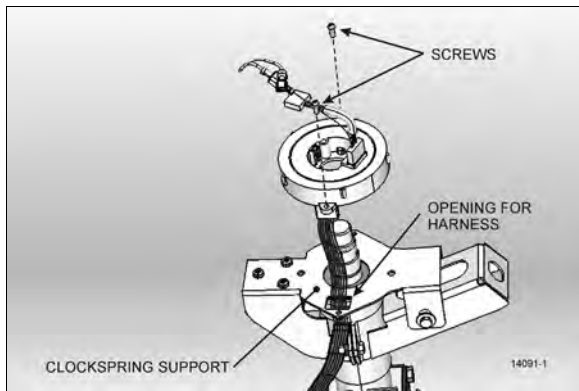

FIGURE 13: CLOCKSPRING INSTALLATION
2. Remove the 2 clockspring mounting screws and then remove the clockspring. You will have to disconnect the clockspring harness connector located lower along the steering wheel column (Figure 13). If necessary, remove the steering column covers.
3. Route the new clockspring harness through the opening in the clockspring support (Figure 13). Plug the connector at the base of the steering wheel column and fix harness along the steering wheel column.